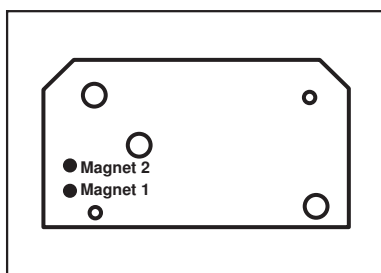

Fig. 5-1: View of the thermoblock from below.
Two Hall sensors are embedded into the heating/cooling plate. With this function, the Hall sensors are displayed as M1 and M2. To make sure that different thermoblock types are identified, magnets with different positions (M1 and M2 (see Fig. 5-1 on p. 20)) and polarities (north and south) are assembled into the thermoblocks. When the value of the Hall sensor > 150 digits, it is identified as north (N). When the value is < 104 digits, it is identified as south (S). The minus symbol means there is no magnet at the sensor. The acceptable value for the Hall sensor –without thermoblock – at a heating/cooling plate temperature of ca. 25 °C must be between 120 and 140 digits. If the Hall sensor without thermoblock is < 120 / > 140, the heating/cooling plate must be replaced.